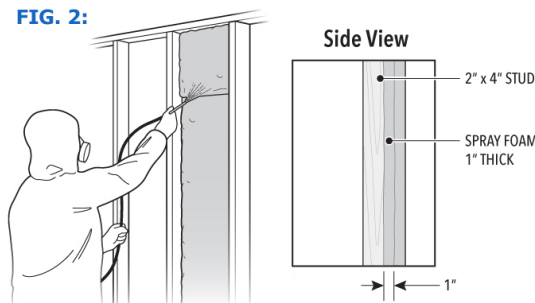

FIG. 3:
4) If the foam expands past the studs, trim flat with a serrated edge before enclosing the wall. (*Fig. 3*)